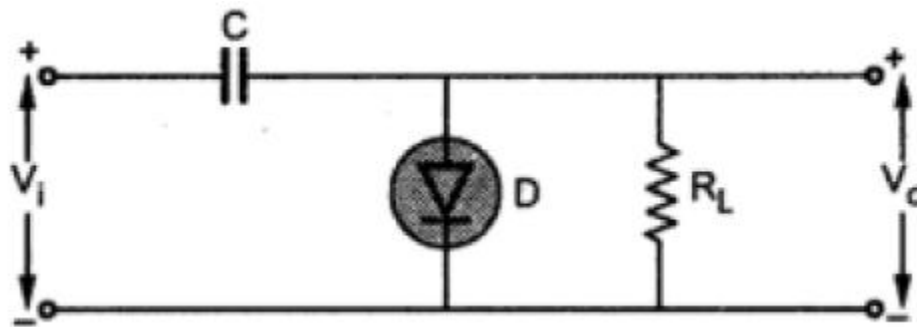

Fig. 1.63 Negative clamper
- A simple negative clamper which adds a negative level to the a.c. output is shown in the Fig. 1.63.